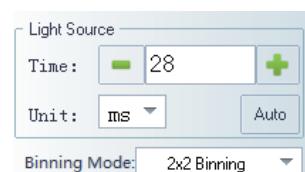

Fig 5-5
5.3.1 Singel mode: (Figure 5-5)